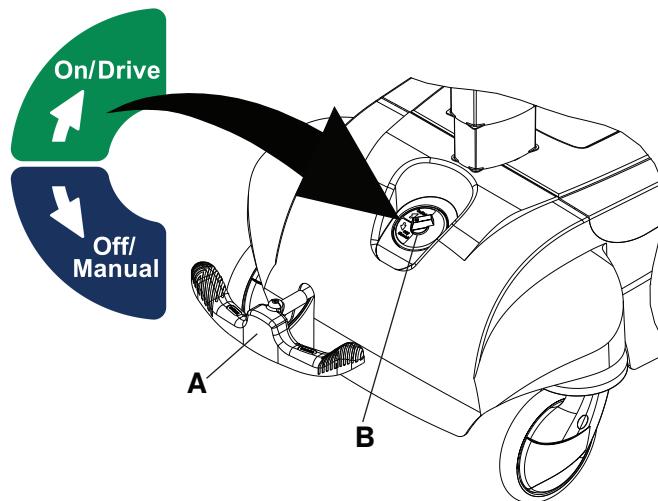

Figure 12 – On/Drive-Off/Manual switch
3. Push down on the steer (green) side of the brake/steer pedal (A) to put the brake/steer pedal in the steer position (Figure 12).